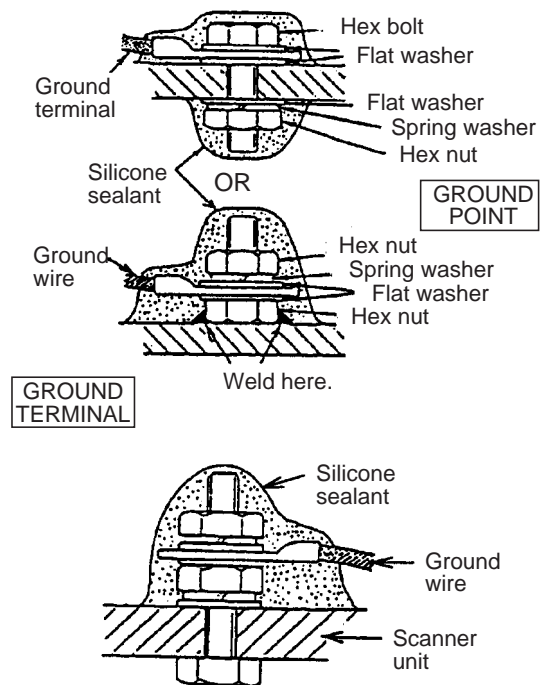

Figure 1-9 How to coat ground point and ground terminal with silicone sealant
8. Coat ground terminal and ground point with silicone sealant as shown in Figure 1-9.